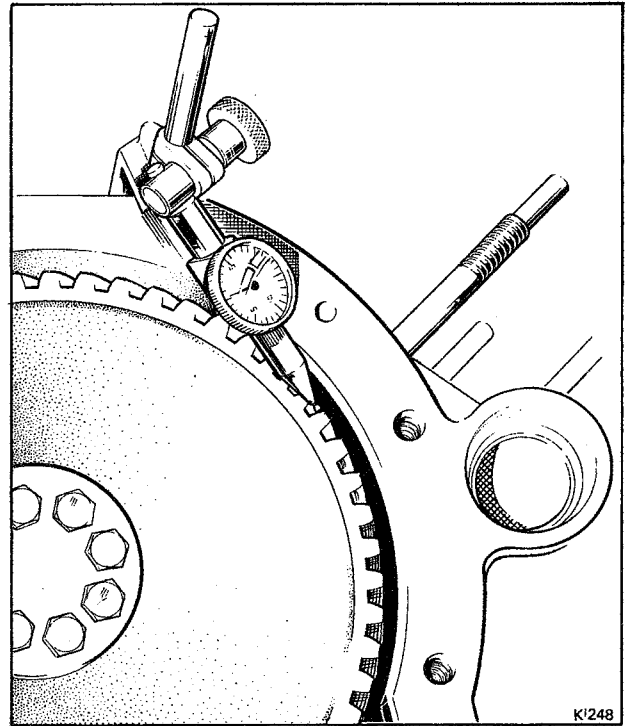

Fig. E34 Checking the timing gear backlash
1. Fit a dial test indicator to the crankcase and set the scale to zero as shown in Figure E34.
7. Using a dial test indicator in a similar manner to that shown in Figure E34, check the backlash of the distributor driving gear. This should be between the figures quoted in Section E3, Dimensional data.